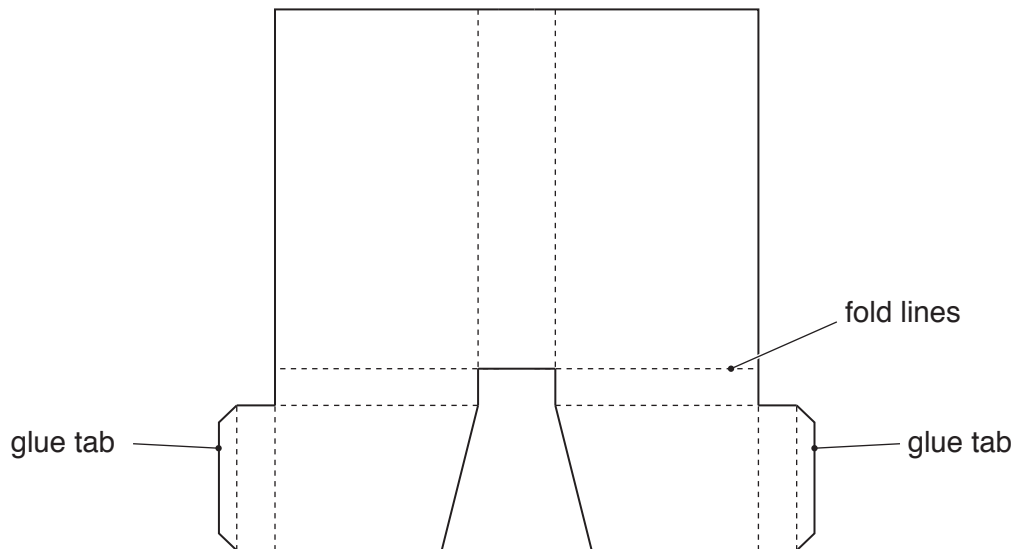

Fig. 1.1
- 1 Fig. 1.1 shows details of the development (net) of an A4 document folder used to keep papers flat and neat. The document folder is to be made in a school workshop. The folder is to be used to transport A4 documents to and from school.
- (d) Use notes and sketches to show how surface treatments and finishes can affect the potential to recycle products such as that shown in Fig. 1.1. [6]